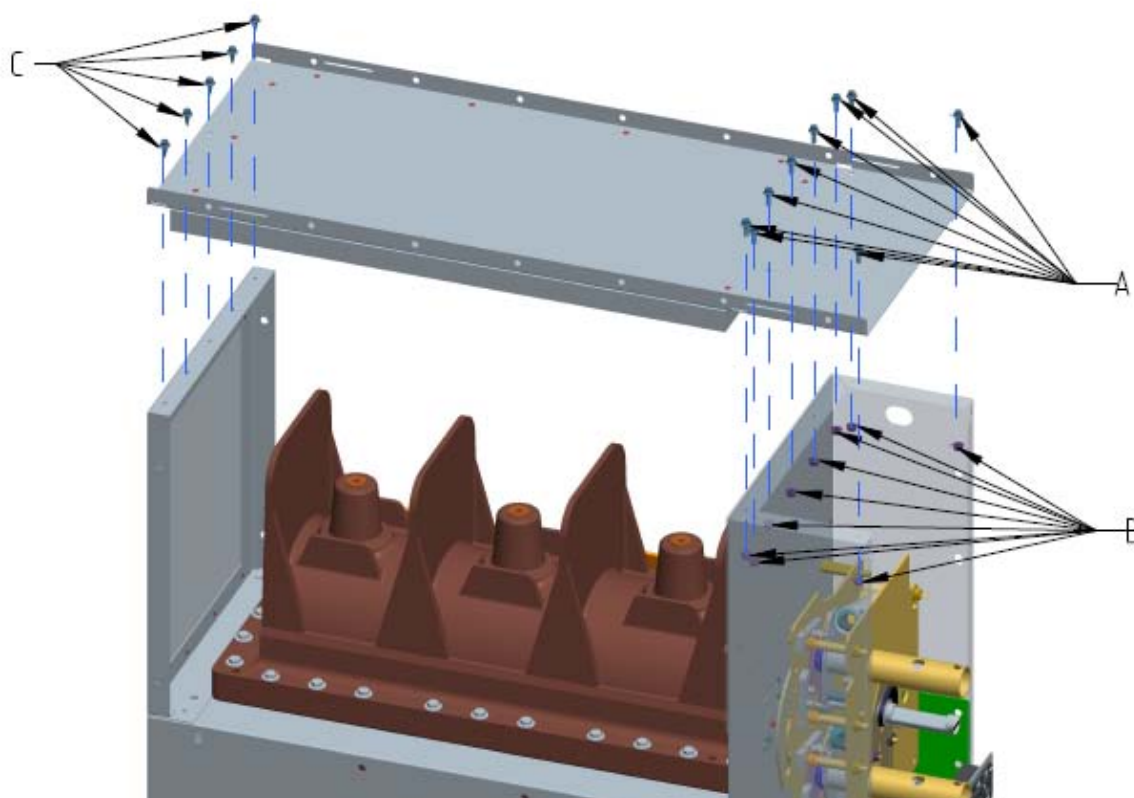

Figure 11: Disassembling the roof panel
With the use of eleven M8x16 RIPP self-locking hexagonal flange bolts (A), one M8x25 self-locking hexagonal flange bolt (B) and twelve M8 RIPP self-locking hexagonal flange nuts (C), the cubicles are fastened to the cable compartment, see Figure 11. Torque M_A equals 42Nm.